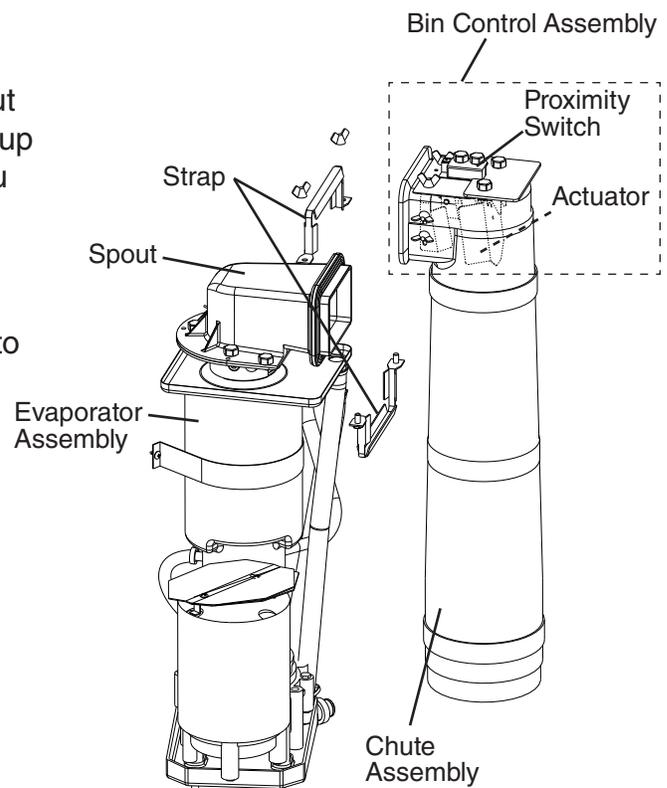

Fig. 7
- c) Remove the strap connecting the spout to the chute assembly. See Fig. 7. Pull up the chute assembly slightly so that you can access the actuator located in the top of the chute.